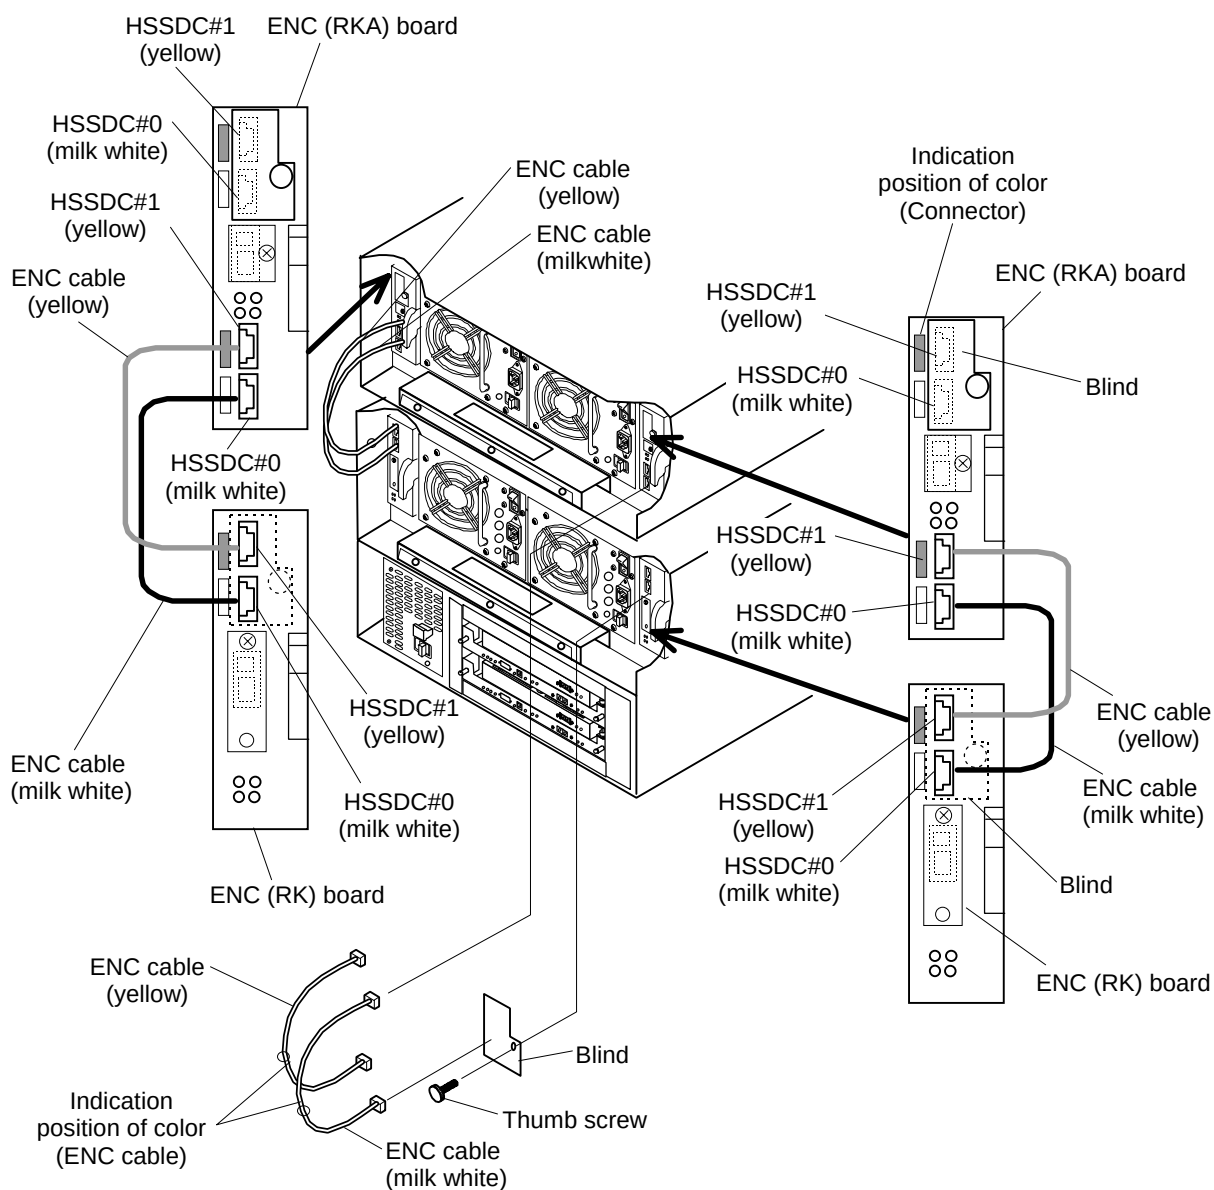

Figure 4.7.4 Connecting ENC Cables
- (b) Connect the ENC cable to the ENC (RK) board.
Notice: When connecting the left and right sets of the ENC (RK) board and ENC (RKA) board with the ENC cables, be sure to connect each of the cables to the sets of adjacent connectors of the same kind, that is, the HSSDC#0 (marked in milk white) and the HSSDC#1 (marked in yellow) of the ENC (RKA) board and the ENC (RK) board (see Figure 4.7.4).